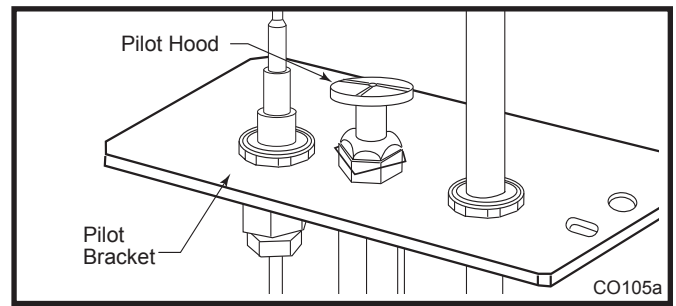

Fig. 30 Remove pilot hood.
- Remove pilot hood by lifting up. (Fig. 30) **NOTE:** It is not necessary to remove the pilot tube for conversion.